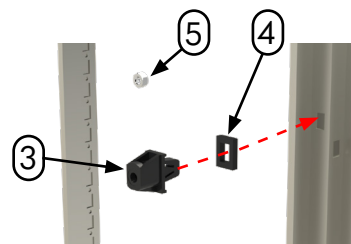

Figure 2
- Push the assembled clip into the mounting cutout on the frame rail (Figure 2).